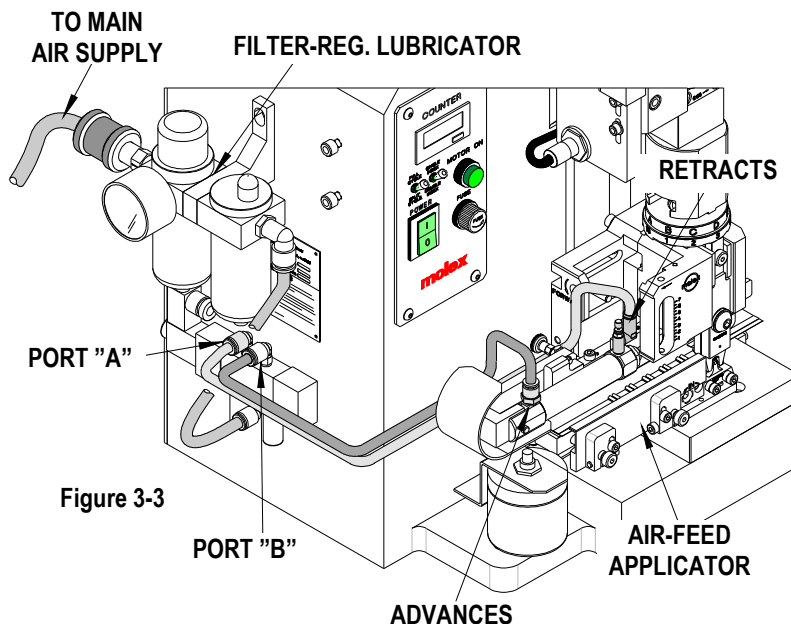

Figure 3-3
11. Insert the "A" port of the air valve with the tube that retracts the feed mechanism of the applicator. See Figure 3-3.
12. Insert the "B" port of the air valve with the tube that advances the feed mechanism of the applicator. See Figure 3-3.